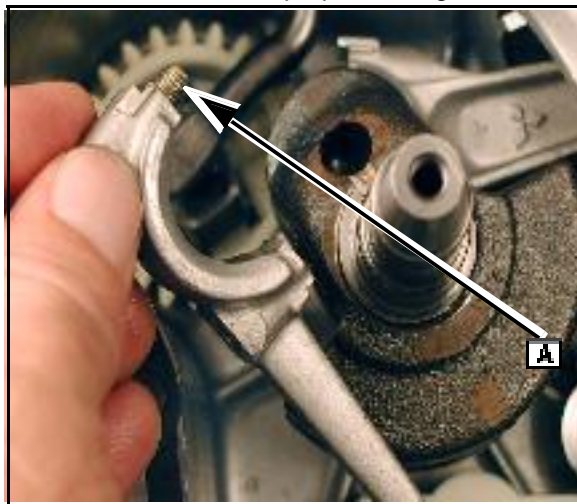

Fig. 1
2. Remove connecting rod cap screws ([A] Fig. 1) and connecting rod cap.